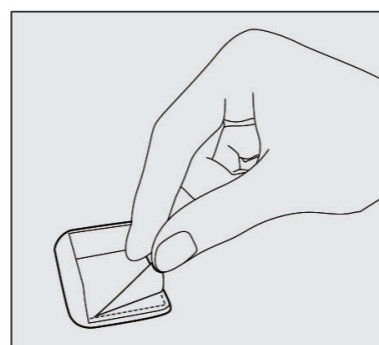
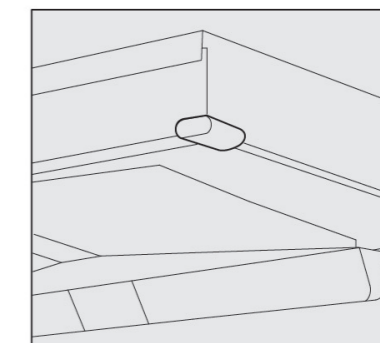

Fig.3
Fig.4
- (1) Hold the front side of the ring suction plate firmly with both hands, and place the left and right pothooks on the rear side of ring suction plate into the left and right hook racks of the smoke collecting hood;
- (2) Prop the ring suction plate with both hands, make it spiral upward, push in while the ring suction plate spirals, finally make the touch claw on the ring suction plate insert into the touch button on the smoke collection hood;
10. Install anti-collision accessories, firstly remove the double faced adhesive tape (see Figure 3), then stick the anti-collision accessories to the corner of the smoke exhaust (see Figure 4);